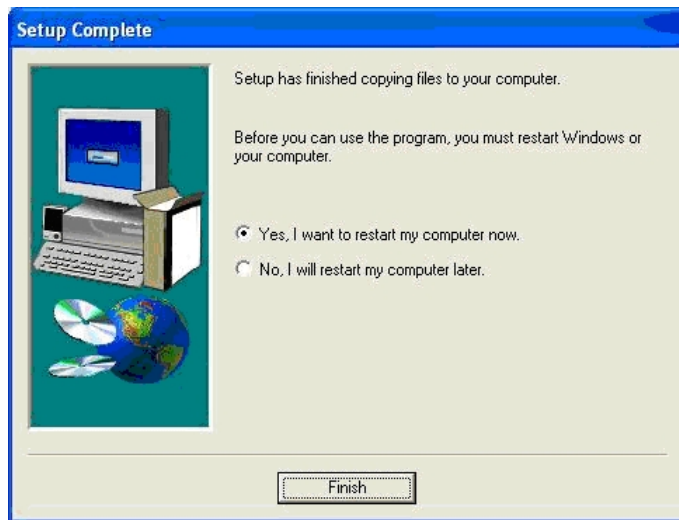

Figure 7-11: Setup Complete
Step 19: When the installation is complete the **Setup Complete** screen in **Figure 7-11** appears.